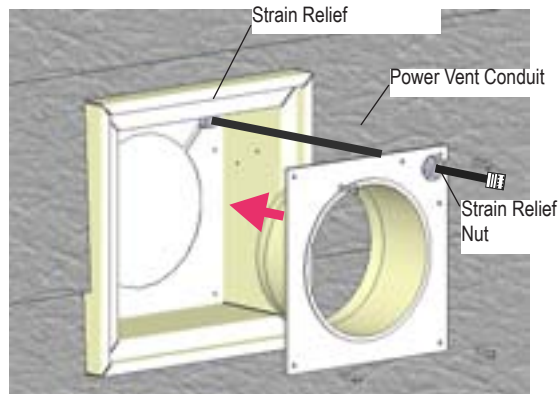

Figure 6c. Installation of Power Vent Conduit
**Step 4.** Insert the conduit from the Power Vent Module into the rough-in frame through the two top right entry holes. Remove the nut from the supplied strain relief and place as shown, Figure 6c.